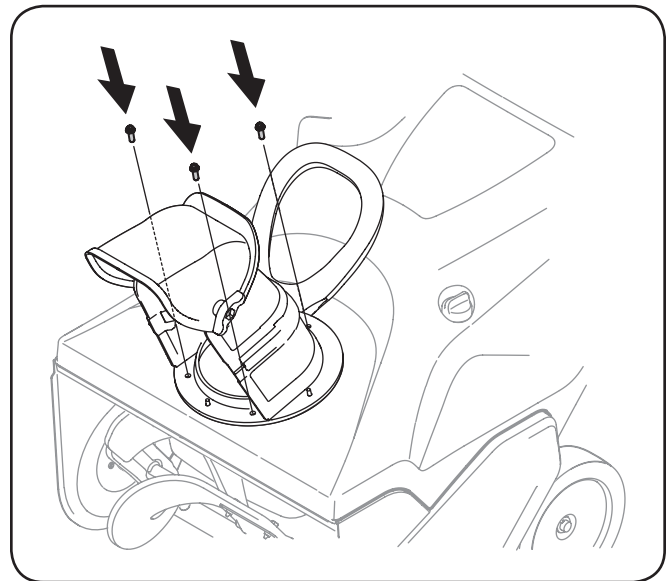

Figure 3-5
3. Align the holes in the chute base with the holes in the lower chute and secure with the previously removed hex washer screws. See Fig. 3-5.